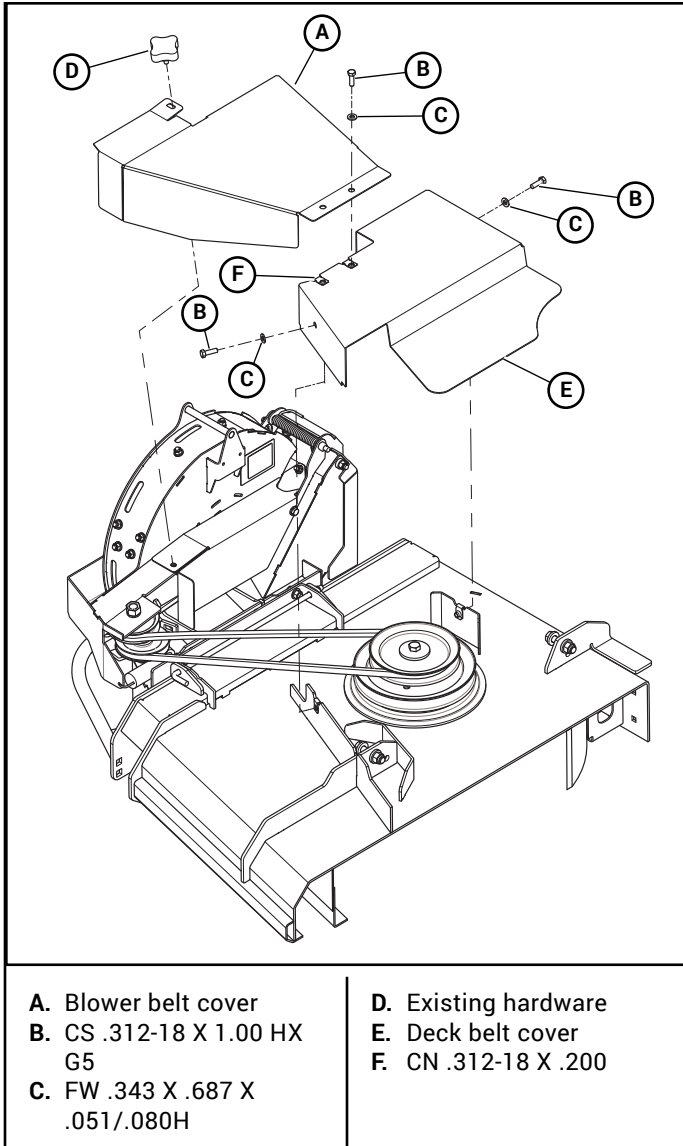

Figure 3-38
13. Attach the clip nuts to the deck belt cover. Figure 3-38
14. Attach the deck belt cover and the blower belt cover. Figure 3-38